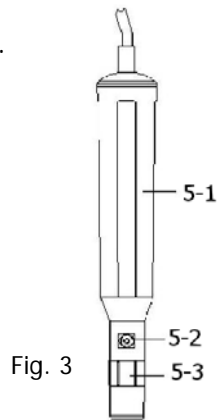

Fig. 3
- 1) Unscrew the " Probe head " (5-3, Fig 3).
- 4) Screw the " Probe head " (5-3, Fig 3) into the probe body.